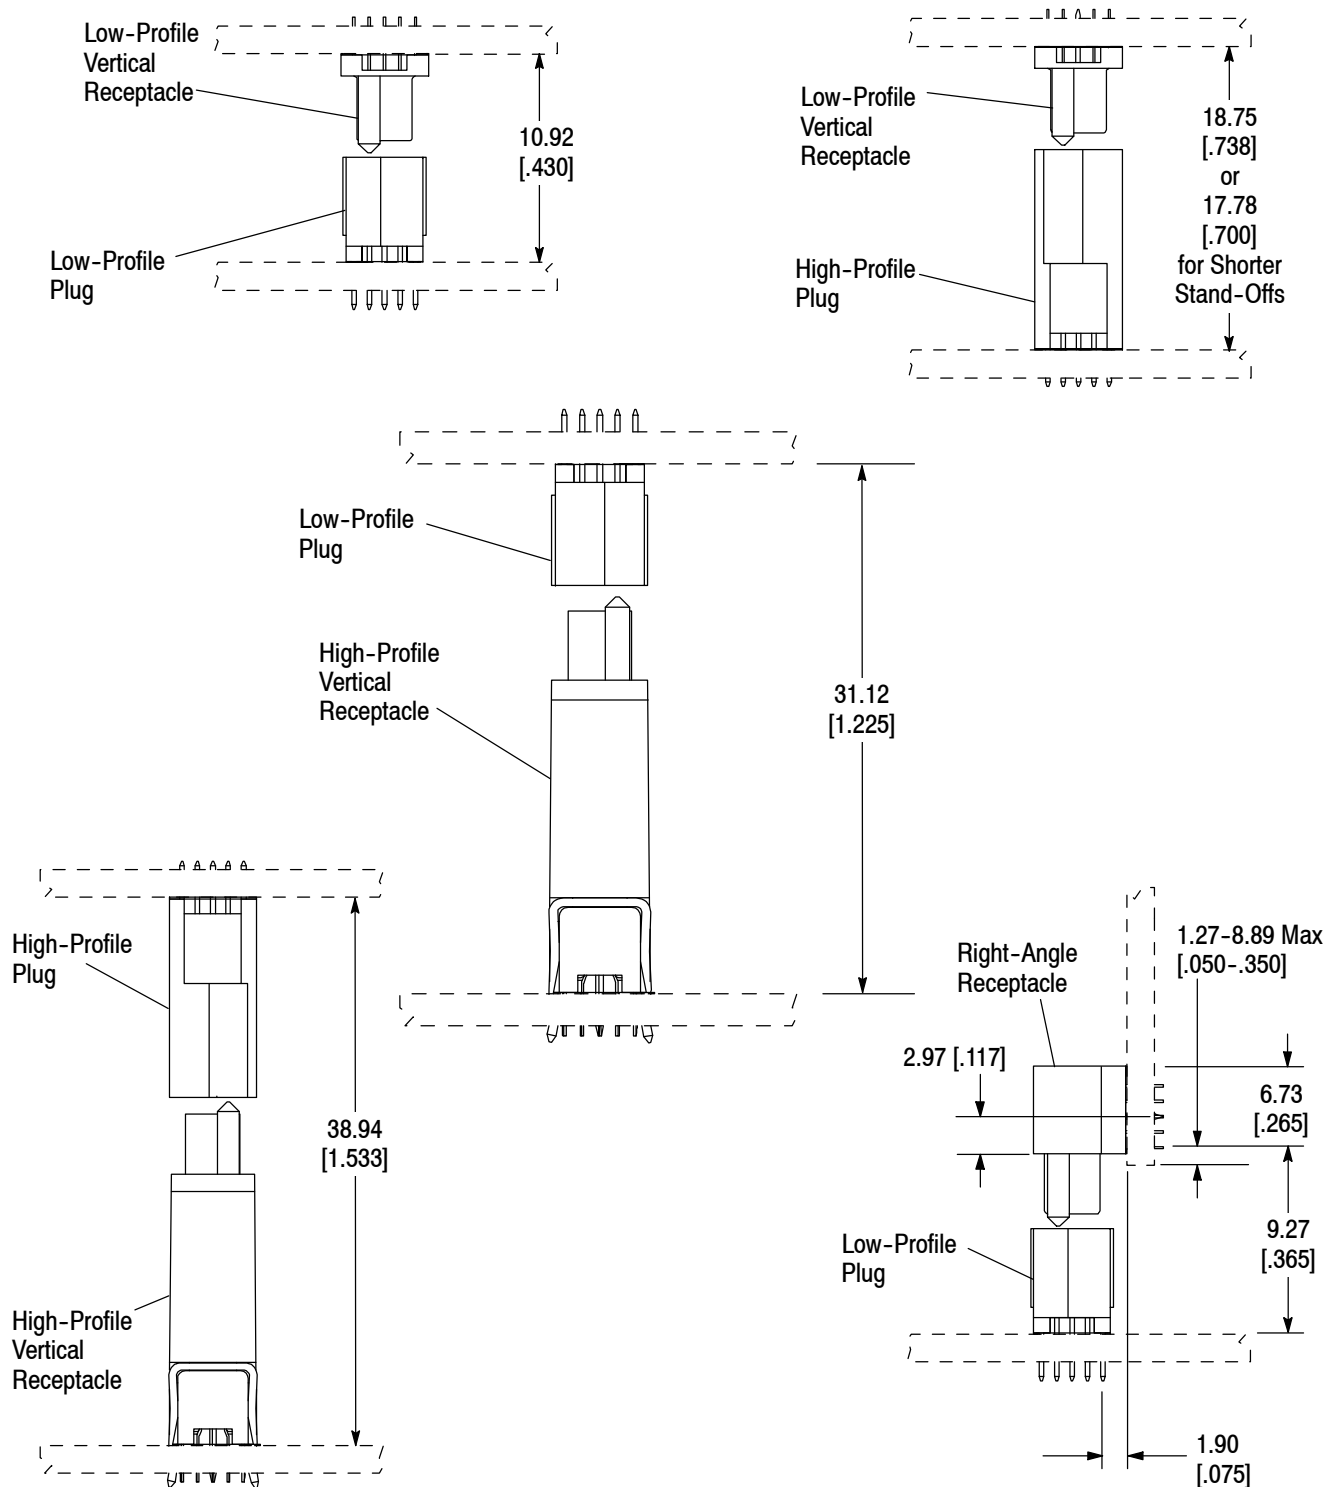

Figure 3
Full mating of connectors is essential to assure a good connection. The required mating dimensions for the various connector styles are provided in Figure 3. Note that the connectors are shown unmated for clarity, but the dimensions given are for fully mated connectors. Contact the Tooling Assistance Center or the Product Information number listed on page 1 for other mating dimensions.
**NOTE:** Refer to Figure 3 for Applicable Mating Dimensions.